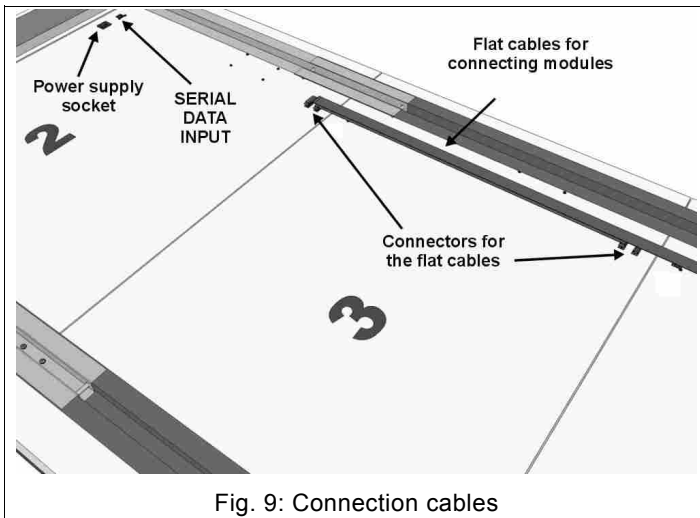
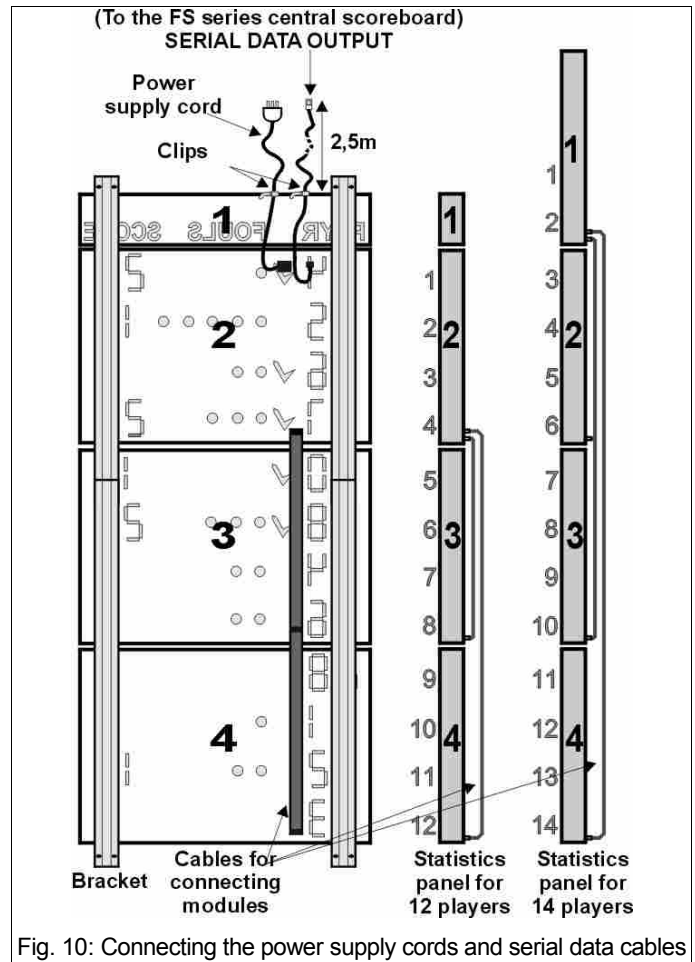

Fig. 9: Connection cables
Fig. 10: Connecting the power supply cords and serial data cables
Once the various modules of a statistics panel have been joined together by the brackets, you may proceed to their electrical connection. On the back of each module the following connectors can be found (Fig. 9):
1. By using the flat cables, connect the top module to each of the other statistics panel modules (Fig. 9, Fig. 10).
2. Insert the power supply cord in the proper socket and fasten the other end to the top part of the panel with the clip provided for this purpose (Fig. 10); this is to enable the power supply plug to be positioned over the statistics panel once the panel is installed on the wall.
3. A 3m thin cable is provided for each statistics panel displaying fouls/points. This cable should be inserted into the "SERIAL DATA INPUT" connector and then fastened above the statistics panel by means of a provided clip. Circa 2.5 m of cable should be left free (Fig. 10) in order to make connecting to the serial data cable easier once the module has been installed on the wall .